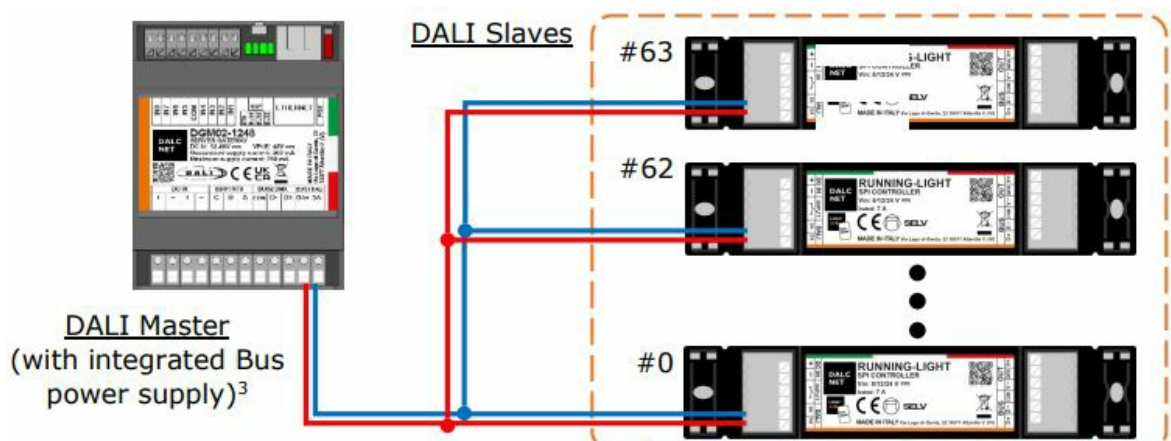

Figure 6: Remote Control Connection Topology, Bus-wiring
- The DALI protocol supports several wiring topologies, i.e. Bus-wiring, shown as an example in Figure 6.